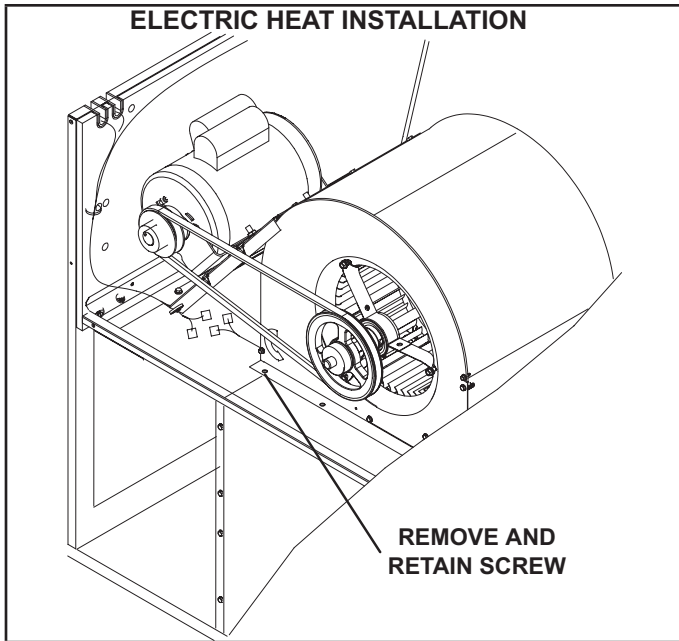

FIGURE 2
- 3 - Remove and retain screw in blower flange as shown in FIGURE 2.